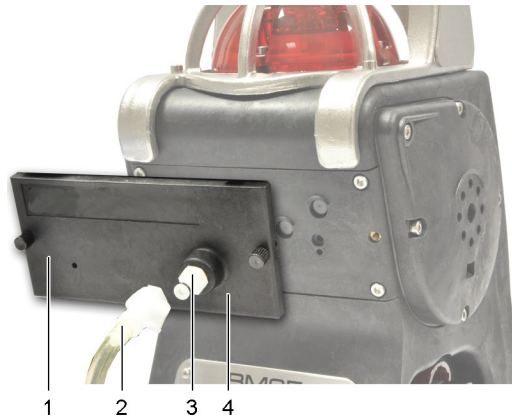

Figure 16: positioning the sensors cover (BM 25A/AW non-equipped with an electric pump)
- Place and screw the cover over the sensors (Figure 16: positioning the sensors cover (BM 25A/AW non-equipped with an electric pump)ref. 1); this cover has no hump as previously mentioned (ref. 4).
- Connect the sample line (ref. 2) to the gas inlet (ref. 3).